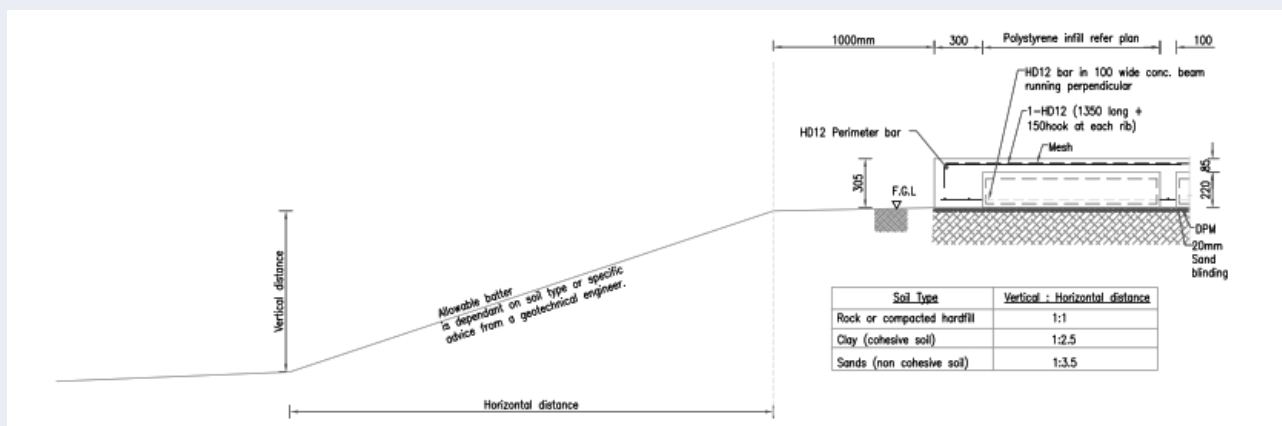

FIGURE 5 – Safe batters for raised building platform
4. Filled platform - Confirm Items 1-3 on the cut platform. Imported fill (well graded compacted hard fill or suitable fill material approved by a geotechnical engineer) less than 600mm deep placed as per NZS4431 and NZS3604. Cut and fill batters to be completed in accordance with NZS3604 and figure 5 and 6.